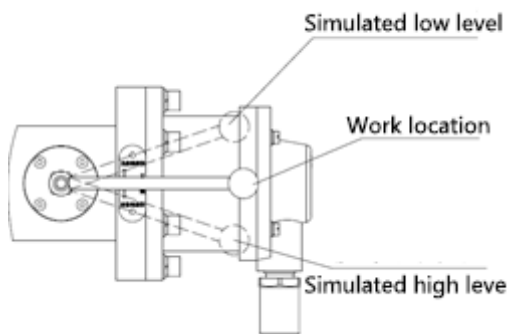

Figure 9 Commissioning operations
7.3.2 Self-checking float level controller, use multimeter to verify whether the output status is correct. Under the empty tank state, simulate the high level and pull the self-test handle downward. Then use the multimeter to check whether the signal is switched once, then pull up. Dynamically simulate a low level and use a multimeter to check if the output is correct. Note that the position of the handle must be placed at the working position after commissioning (see Figure 9)